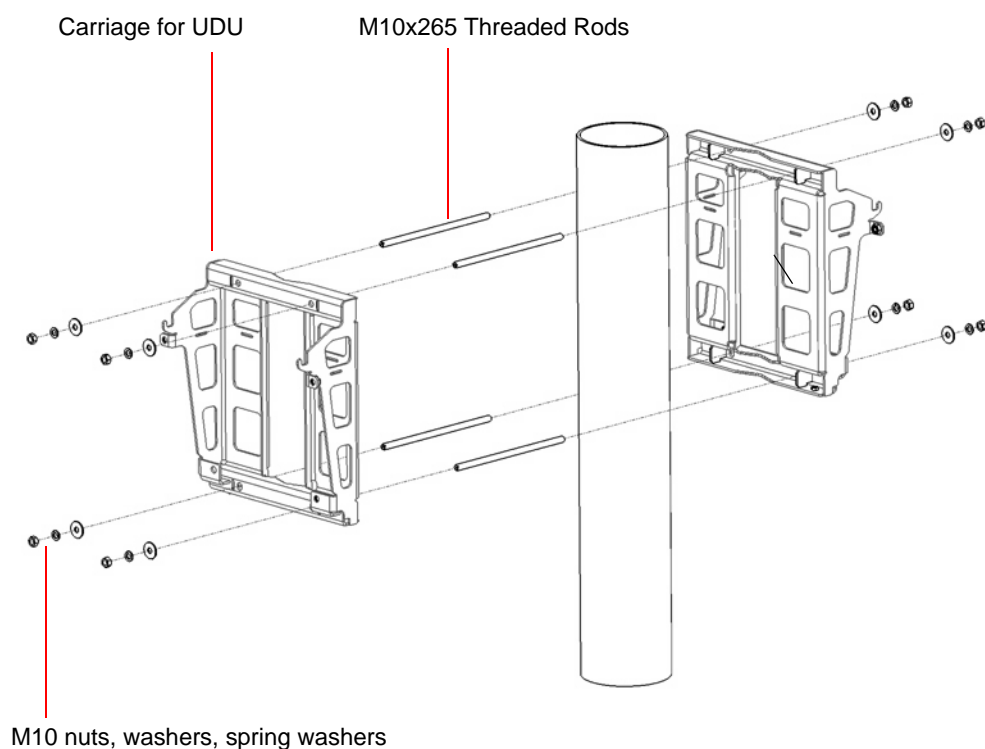

Figure 4: Mounting Two Carriages on the Pole
- 4 Lean the carriage vertically on the pole and position the second carriage in parallel to the first one (Figure 4).
- 5 Thread the rods through the second carriage (Figure 4).